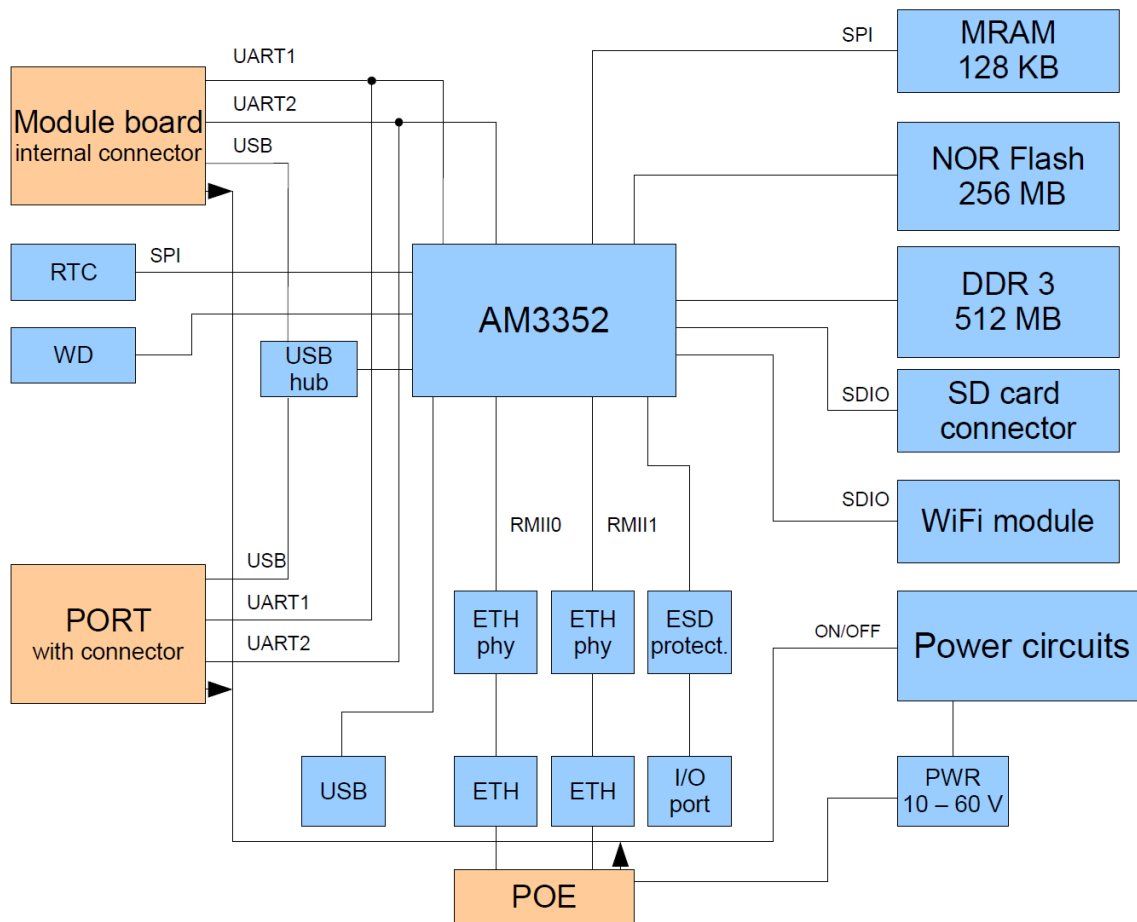

Figure 2: Block diagram of v3 routers
See the block diagram for v3 routers on the figure 2 below. v2 routers are similar, but have different memory sizes, different CPU and the PORT boards are not interconnected the same way. Actual differences are described in the text below.
**v3 platform** It is usually `/dev/ttyS0` for v3 routers if the version of the router (the PORT used) has only one serial line interface and if the connector of the serial line interface is on the left side of the router's front panel. If you have a version with two serial interfaces (e.g. RS232 and RS485), both `ttyS0` and `ttyS1` are used. Generally both UART1 and UART2 are connected to both additional boards as you can see from the Fig. 2.